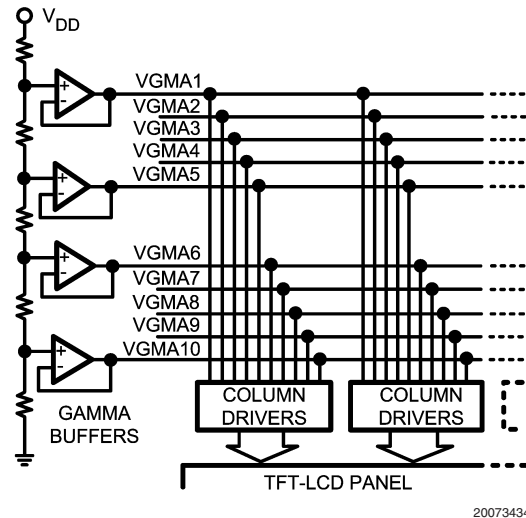

FIGURE 9. Basic Gamma Buffer Configuration
*Figure 9* shows how column drivers in a TFT display are connected to the gamma levels. VGMA1, VGMA5, VGMA6, and VGMA10 are driven by the Gamma Buffers. These buffers serve as low impedance voltage sources that generate the display's gamma levels. The Gamma Buffers' outputs are set by a simple resistive ladder, as shown in *Figure 9*. Note that VGMA2 to VGMA4 and VGMA7 to VGMA9 are usually connected to the column drivers even though they are not driven by external buffers. Doing so, forces the gamma levels in all the column drivers to be identical, minimizing grayscale mismatch between column drivers. Referring again to *Figure 9*, the resistive load of a column driver DAC (i.e. resistance between GMA1 to GMA5) is typically 10kΩ to 15kΩ. On a typical display such as XGA, there can be up to 10 column drivers, so the total resistive load on a Gamma Buffer output can be as low as 1kΩ. The voltage between VGMA1 and VGMA5 can range from 3V to 6V, depending on the type of TFT panel. Therefore, maximum load current supplied by a Gamma Buffer is approximately  $6V/1k\Omega = 6mA$ , which is a relatively light load for most op amps. In many displays, VGMA1 can be less than 500mV below  $V_{DD}$ , and VGMA10 can be less than 500mV above ground. Under these conditions, an op amp used for the Gamma Buffer must have rail-to-rail inputs and outputs, like the LM6588.